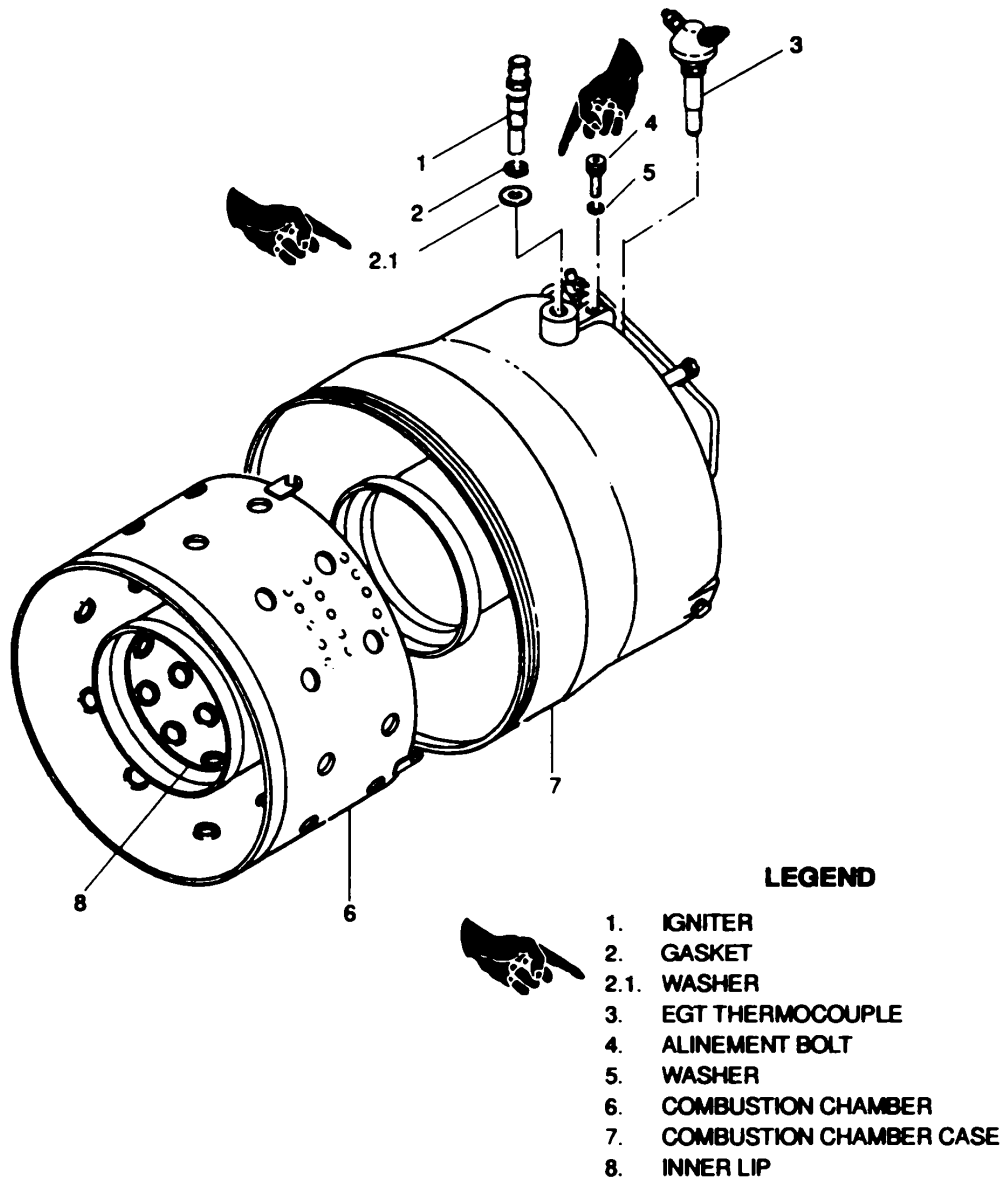
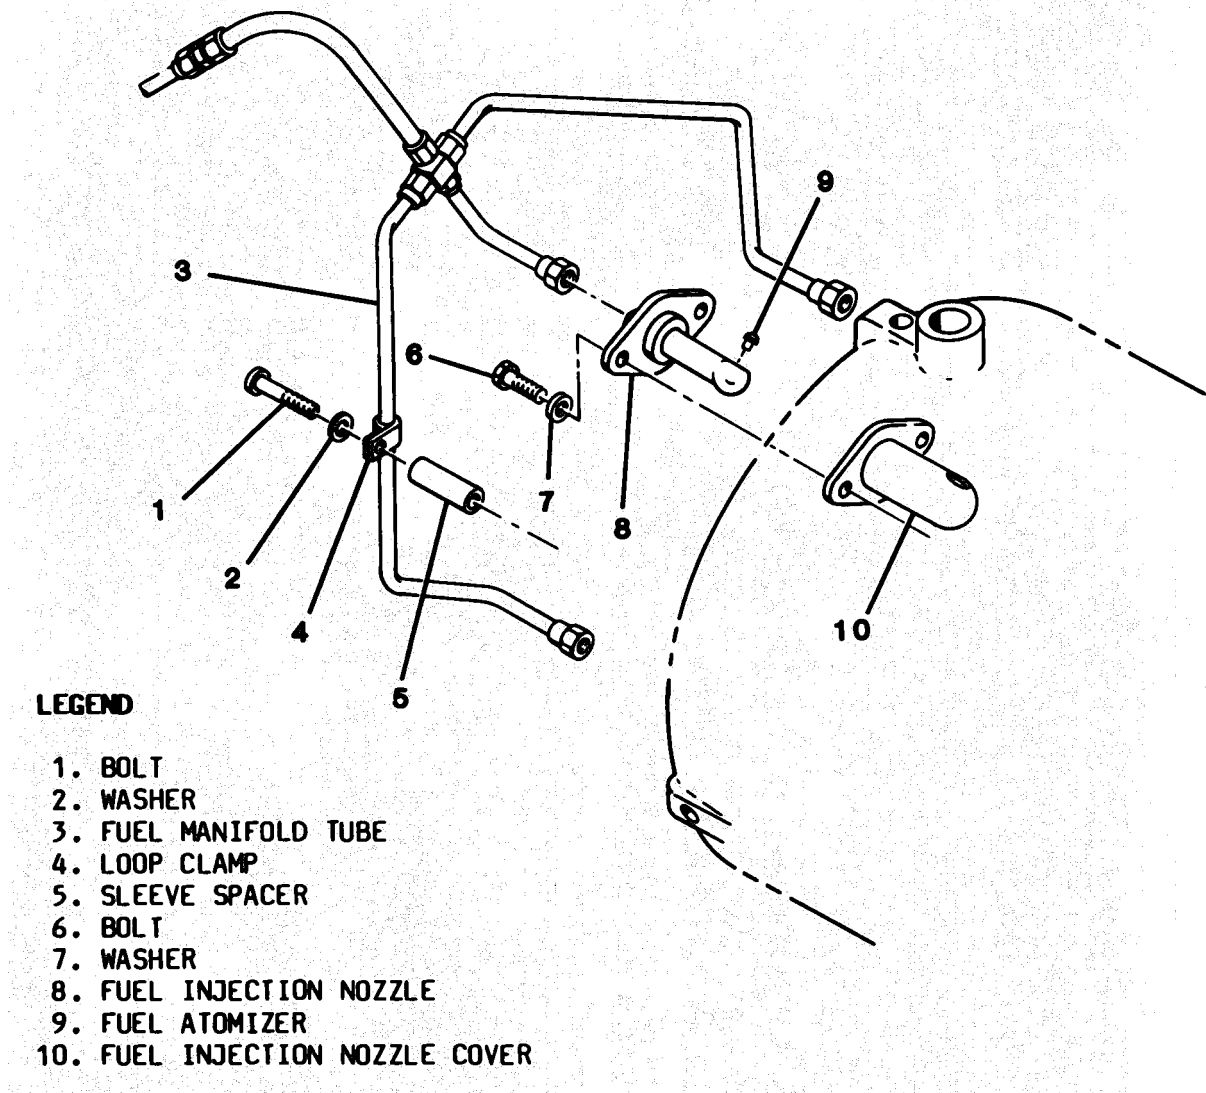

Figure 8-3. Combustor Housing Disassembly
Figure 8-4. Combustor Housing Disassembly - Fuel Injection Nozzle Removal
(1) Remove combustion chamber case assembly in accordance with paragraph 8-2a.
(2) Remove ignitor (1, Figure 8-3), gasket (2), and washer (2.1).
(3) Remove exhaust gas temperature (EGT) thermocouple (3) from combustion chamber case.
(4) Remove bolts (1, Figure 8-4), washers (2), fuel manifold tube (3), loop clamps, (4), and sleeve spacers (5).
(5) Remove bolts (6) and washers (7).
(6) Remove fuel injection nozzles (8), fuel atomizer (9), and fuel injection nozzle covers (10).
(7) Remove three alinement bolts (4, Figure 8-3) and washers (5).
(8) Remove combustion chamber (6) from combustion chamber case (7). If combustion chamber does not slip out easily, use puller on internal lip (8). Cautiously remove combustion chamber. Exercise care not to damage lip.
(9) Inspect combustion chamber case and combustion chamber in accordance with paragraph 8-2b and Table 8-1.
(b) Slide combustion chamber (6, Figure 8-3) into combustion chamber case (7).
(f) Coat threads of bolts (6, Figure 8-4) with anti-seize compound, MIL-A-907. Install nozzle covers (1 0) and fuel nozzles (8). Secure with washers (7) and bolts (6). Torque to 20 25 inch pounds (2.26 2.83 Nm) and lockwire bolts using MS20995-C20 and lockwire nuts using MS20995-C32.